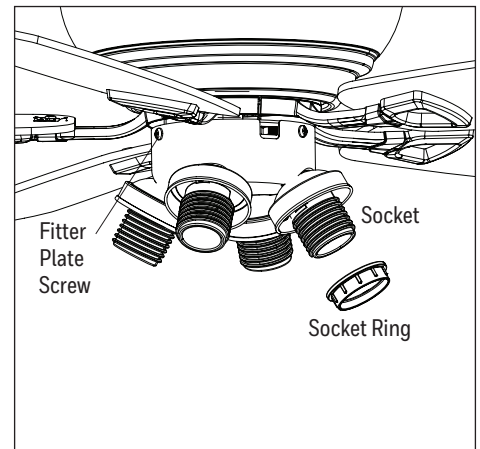

Figure 2.12
12. **Note:** Align the notch in the light kit with the reverse switch. Attach the light kit to the fitter plate using the three fitter plate screws. Then remove the four socket rings from the sockets of the light kit (Figure 2.12).